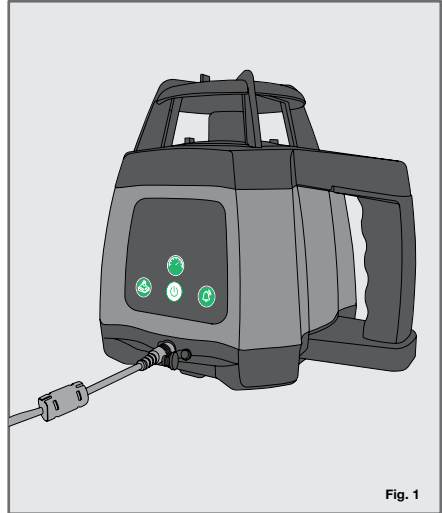

Fig. 1
- Insert the charger into one of the two charging ports (Fig.1). The charging ports are located on the battery pack and underneath the control panel. Progress will be shown by the power indicator display on the charger as following: